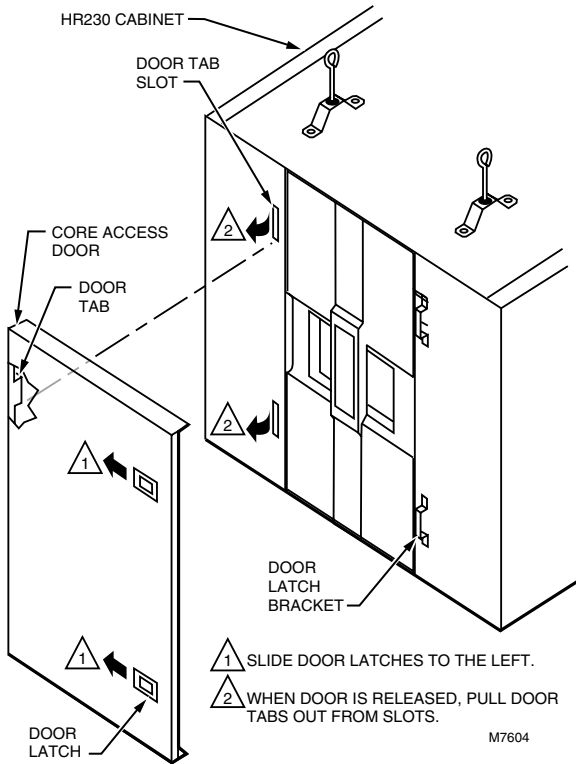

Fig. 3. Remove core access door.
2. Remove the core access door (located on the back of the ventilator cabinet) by sliding the two catches to the left and pull the door open and off. See Fig. 3.